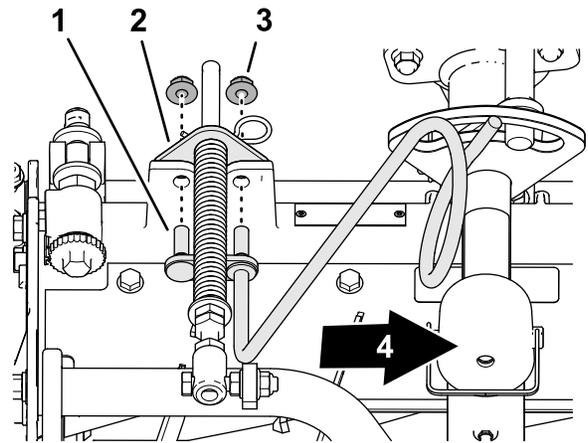

Figure 15
3. Align the studs of the right hose guide with the holes in the cutting-unit frame and the turf-compensator bracket (Figure 15).